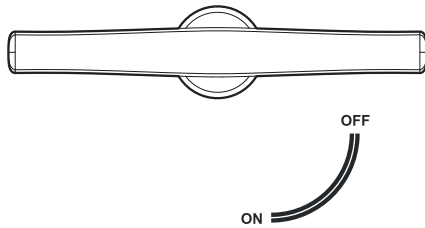

Figure3-25 Set the switch to OFF
- Step 1 Open the front door of distribution cabinet, set the input switch, output switch, bypass switch, maintenance bypass switch to OFF, as shown in Figure3-25.